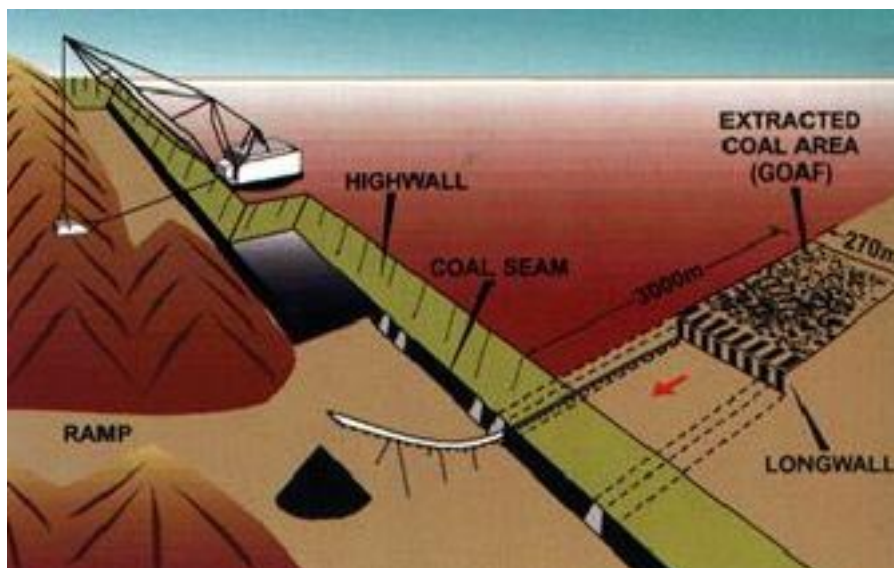

Fig. 3 Punch Longwall Mining
- f) *Punch Longwall*: A method of longwall mining from the highwall of an open cut operation, in which the stripping ratio far outweighs the production cost of coal mined as shown in Fig. 3.